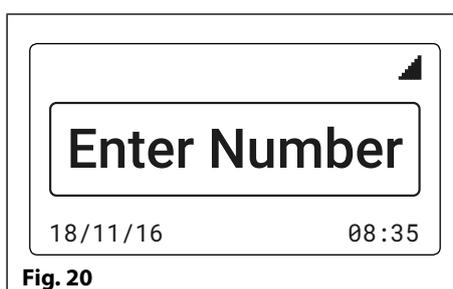
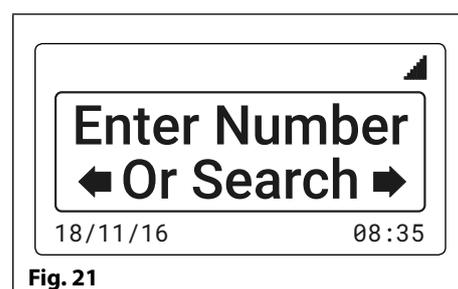

Fig. 20
Fig. 21
5. After a further delay the display will then show the default welcome screen, refer to **Fig.20** for the Art.4812 and **Fig.21** for the Art.4812R below. The digital GSM is ready to begin programming.